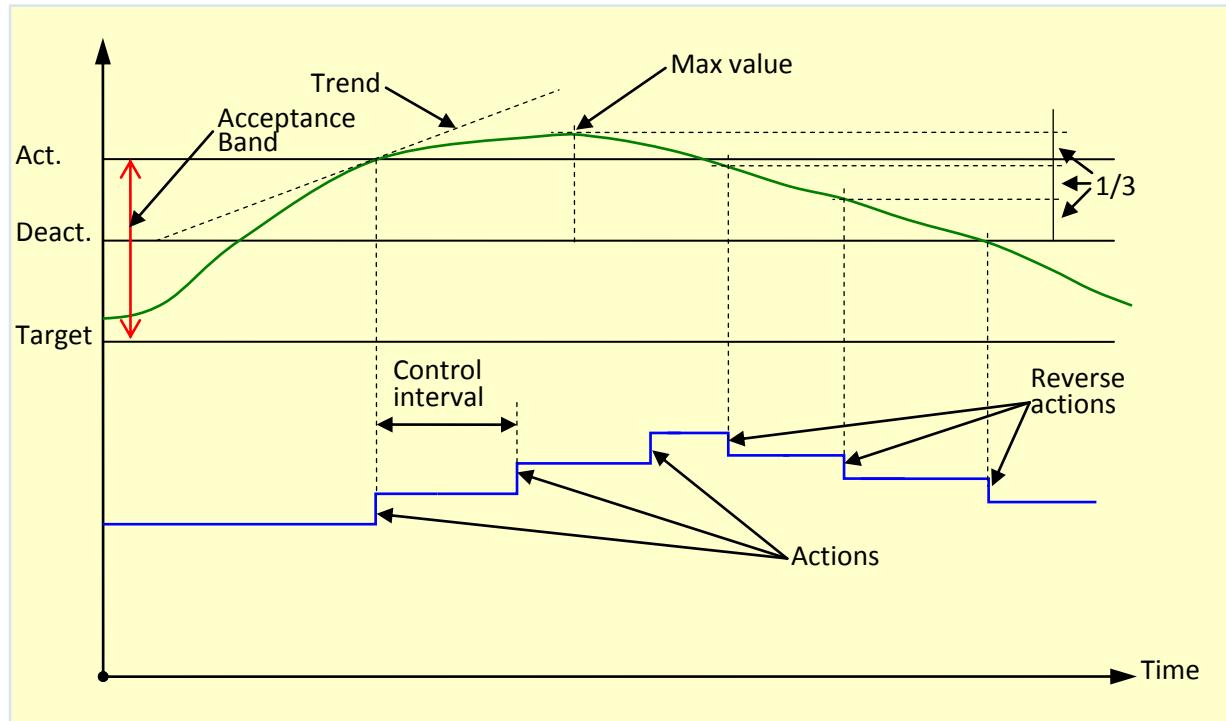

Fig. 44: FECA Stepwise reverse actions
- Selection of Stepwise reverse actions activates the stepwise reverse actions, where Reverse actions are divided into three steps and are executed at three different levels between Max. Value and Deact. value as seen in Fig. 44. Stepwise reverse actions is further explained in 12.4.6 under